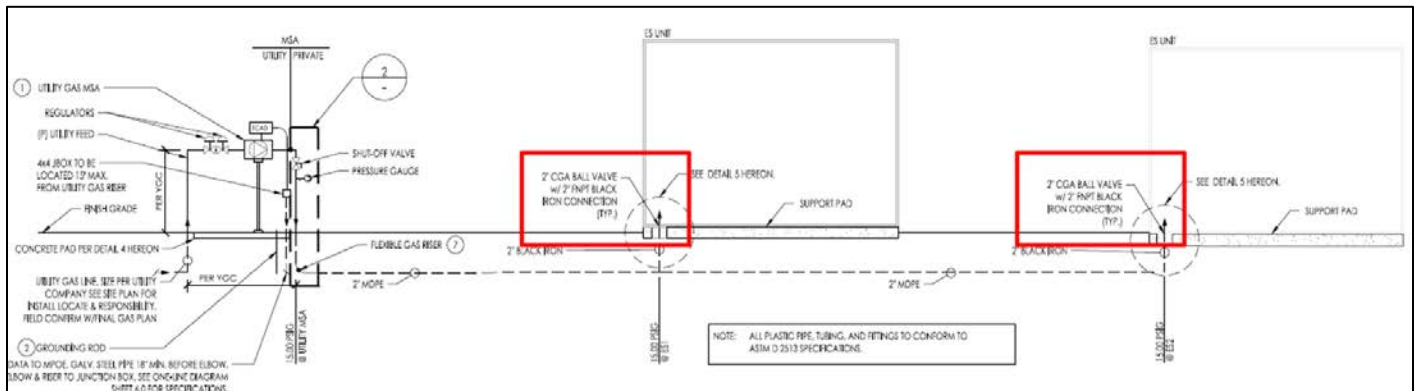

Figure 1
- 1.6. Verify Each Fuel stub up valve is in the closed position (at YFP, and Upstream facilities valve, where applicable and shut each fuel stub up valve. See Figure 1.